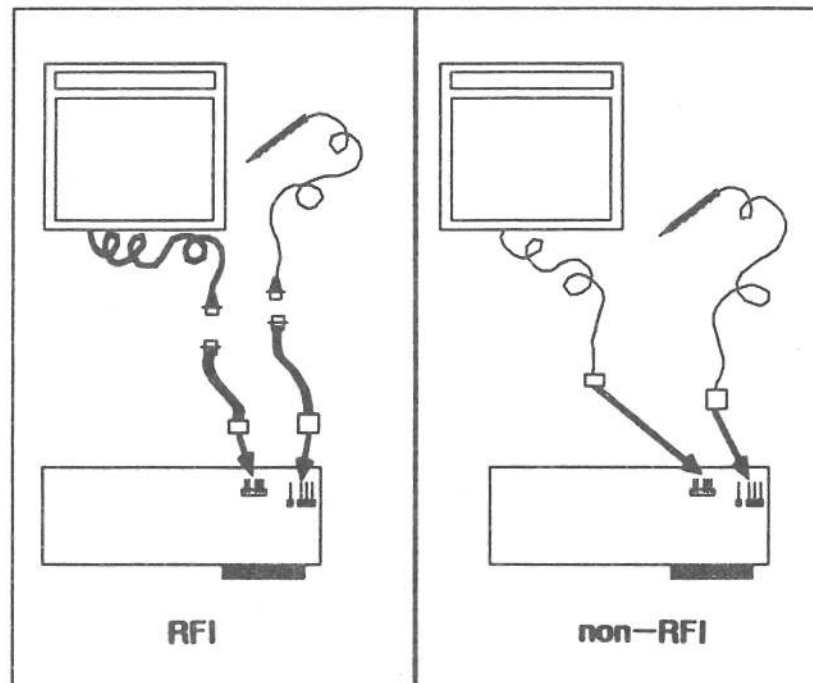
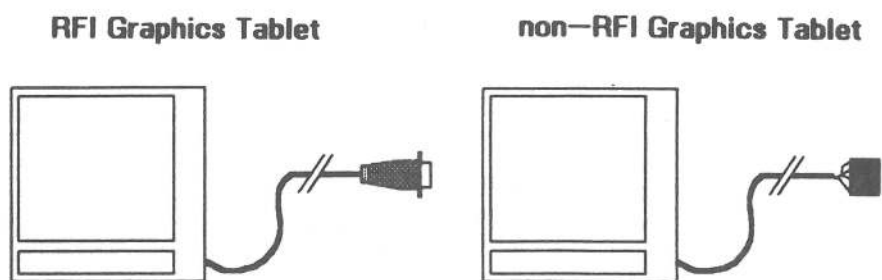

FIGURE 1
FIGURE 2
Refer to Figure 1, which shows the configuration for the RFI and non-RFI versions of the Graphics Tablet. Notice that the only difference for the RFI configuration is that the tablet and the pen do not connect directly to the Interface Card. Instead, they connect to a short cable, and the cable connects to the Interface Card.
1. Connect the RFI Graphics Tablet (see Figure 2) to the short cable with the colored plastic connector. Connect the other end of the short cable to the five-pronged connector on the RFI Interface Card. (See Figure 1.)